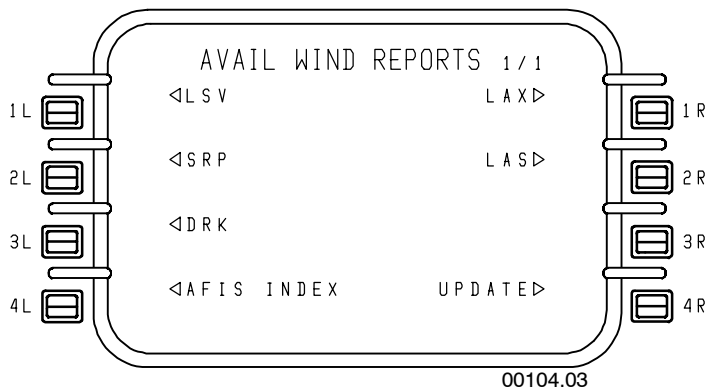

Figure 6-53
- **AVAIL WIND REPTS 1/1** – Figure 6-53 is accessed through the AFIS INDEX or through the LOAD WX/WINDS page. It lists the stations for which the WINDS ALOFT reports have been loaded from disk or updated from a report. Stations can be changed, deleted, or added by the pilot. Up to five stations can be listed on this page. If the pilot enters a station for which the wind data is not available from the disk or the memory, it is displayed in inverse video until an UPDATE is performed.